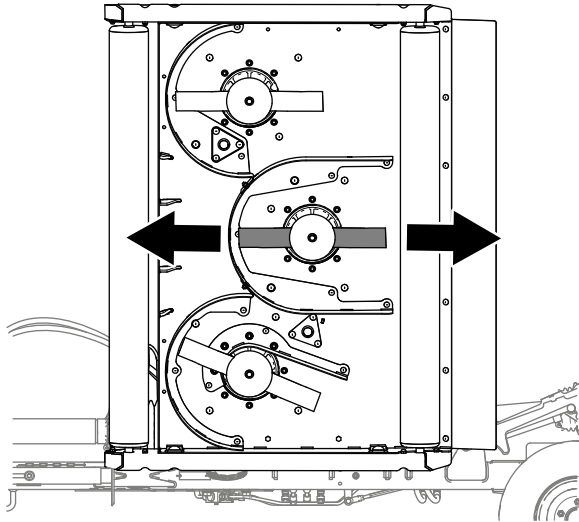

Figure 72
1. For each mower deck that you are adjusting mower pitch, align the center mower blade shown in Figure 72.